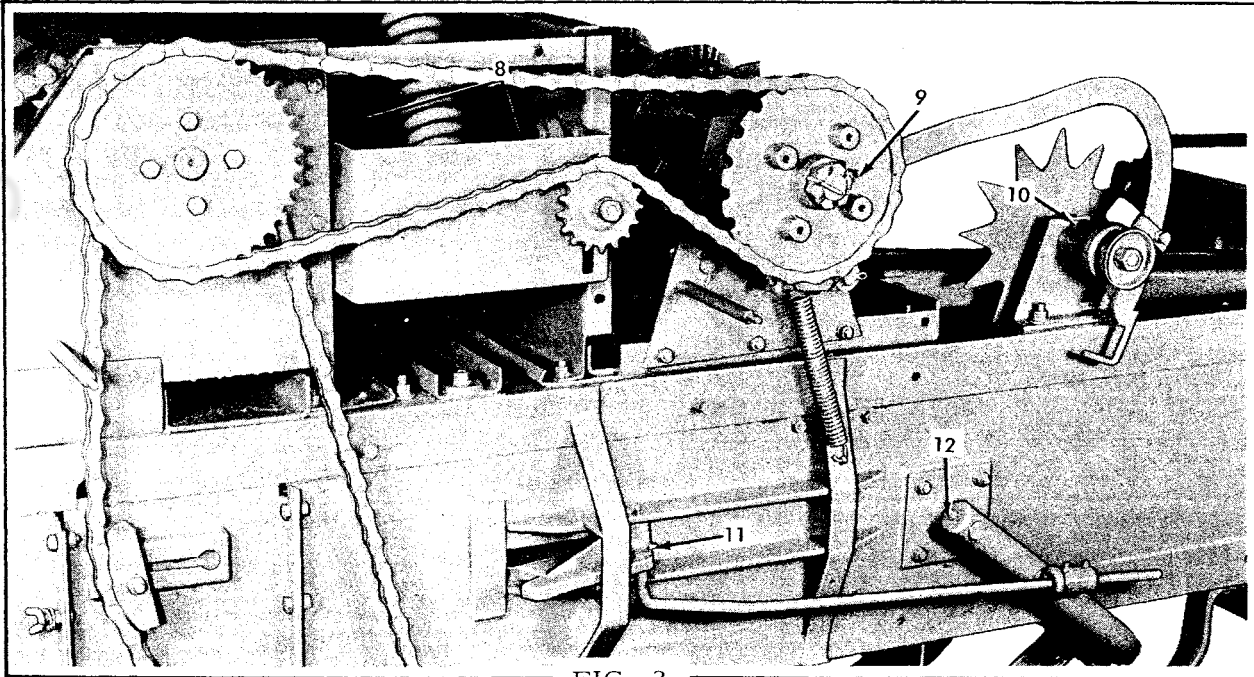

FIG. 2
8. L.H. Feed Rake Pivot (front & rear) (Fig. 2)
9. Knotter Driven Sprocket (Fig. 2)
10. Star Wheel Bearing (Fig. 2)
11. Ram Stop Pivot (Fig. 2)
12. L.H. Needle Pivot (twice daily) (Fig. 2)